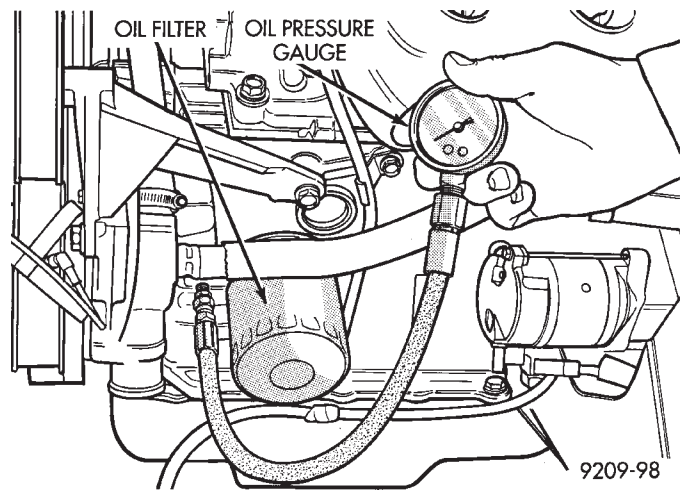

Fig. 13 Checking Oil Pump Pressure
(1) Remove pressure sending unit and install oil pressure gauge (Fig. 13).